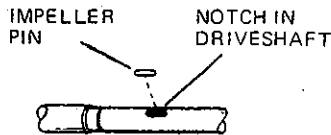

Figure 26. Place impeller pin in notch in drive shaft.
- (4) Put grease in the pin notch of the drive shaft to maintain pin in position and install the impeller pin (Figure 26).
- (5) Slip the impeller over the drive shaft and the impeller pin.